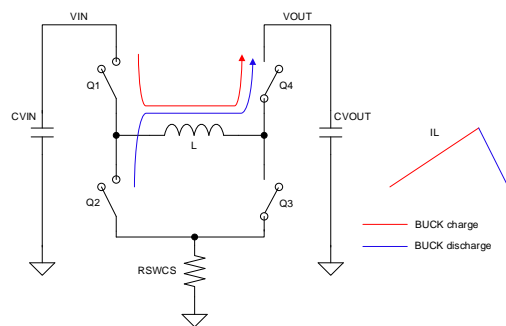

Figure 10. $V_{IN} \gg V_{OUT}$: Buck Mode
- When V_{IN} is much greater than V_{OUT} , the device operates in Buck mode, as shown in Figure 10.